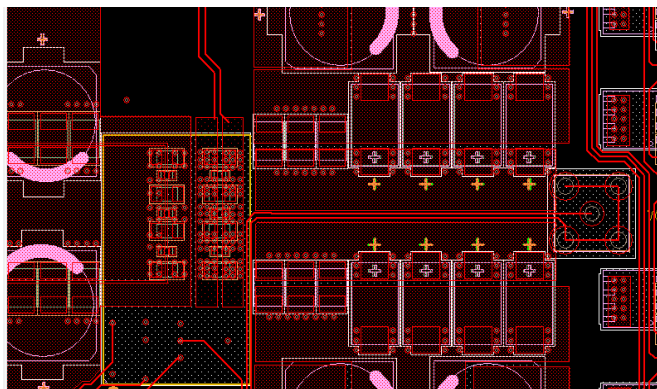

Figure 30b. Bottom layer (single)
- Place multiple ceramic capacitors directly below the DJT090A0X43-SRPZ especially in between VIN and VIN_GND. This is the most critical decoupling capacitor which will improve efficiency and reduce noise, see Figure 30b, 31d.
- Use differential pair to route VS+ and VS-, connect them to the decoupling capacitor, which is closest to the load, see Figure 30b.